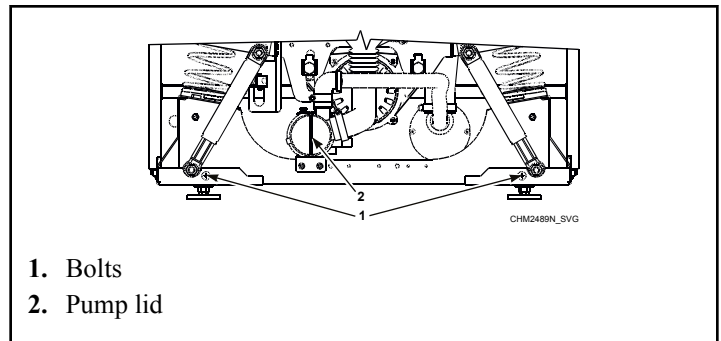

Figure 35
- c. Remove the front panel of cabinet by unlocking bolts. Refer to *Figure 35*.